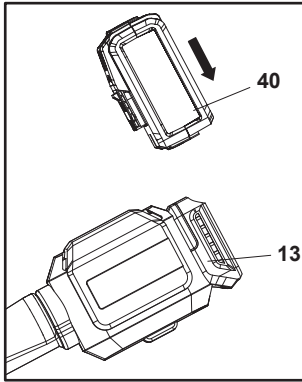

Fig. 21
1. Align the battery pack (40) with the sliding slots of the battery docking port (13) and slide the battery pack (40) in to attach it. Ensure it clicks in place (Fig. 21).